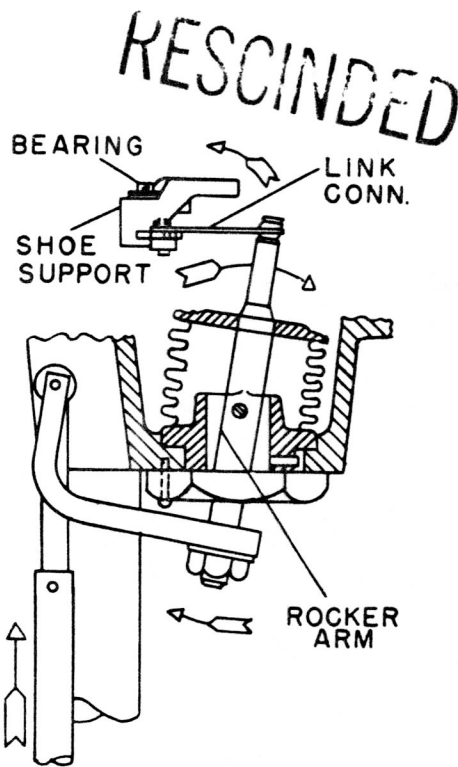

Figure 39—Linkage Connections in Housing
(3) Due to the mechanical linkage, a movement of the float will cause a rocking movement of the lever passing through the bellows. Figure 39 illustrates position of lever when the float is at the tank bottom position. A link (2) connection is used to connect the upper end of rocker arm (1) and variable resistance shoe support (2) which is free to move around the shaft supporting the wiper contact arm.
(1) Each tank unit contains a resistance strip and a movable contact arm, the position of which is varied by the motion of a float in the tank. This position is transmitted electrically to an indicator. Fuel leakage from the tank is prevented by a metal bellows at the point where the float movement is carried through to the resistance strip unit. The contact shoe in the tank unit housing is caused to move over the resistance strip through suitable leverage by the movement of a float in the tank.
(2) Due to the mechanical linkage a movement of the float will cause a rocking movement of lever (1). Figure 39 illustrates the position of lever (1) when the float is at the tank bottom position. A link connection (2) is used to connect the upper end of rocker arm (1) and variable resistance shoe support (3) which is free to move around bearing (4). It will be noted that the leads  $R -$  and  $R +$  contact resistance strip (1) at each